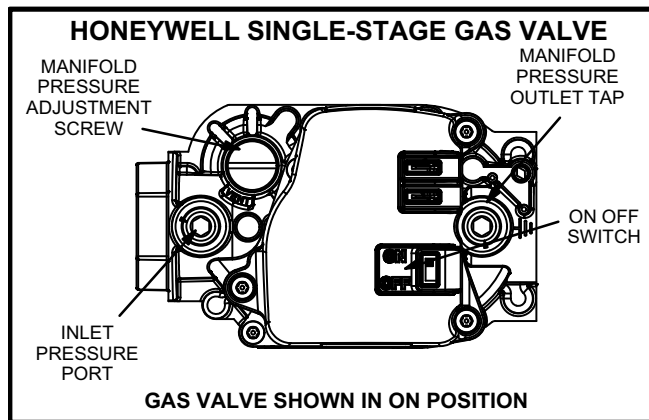

FIGURE 2
- 2 - Remove the heating compartment access panel. Move the automatic gas valve switch to the **OFF** position. See figures 2, 3 and 4.
- 6 - Move gas valve switch to **OFF**. See figure 2, 3 and 4.
- 7 - Wait five (5) minutes for any gas to clear out. If you then smell gas, **STOP!** Immediately call your gas supplier from a neighbor's phone. Follow the gas supplier's instructions. If you do not smell gas, go to the next step.
- 8 - Move gas valve switch to **ON**. See figures 2, 3 and 4.
When testing supply gas pressure, use the 1/8" N.P.T. plugged tap or pressure post located on the gas valve to facilitate test gauge connection. See figure 2 or 3. Check gas line pressure with unit firing at maximum rate. Low pressure may result in erratic operation or underfire. High pressure can result in permanent damage to gas valve or overfire.
- 1 - Connect test gauge to manifold pressure tap (figure 2) on gas valve.
- 4 - If necessary, make adjustments. Figure 2 shows location of adjustment screw.